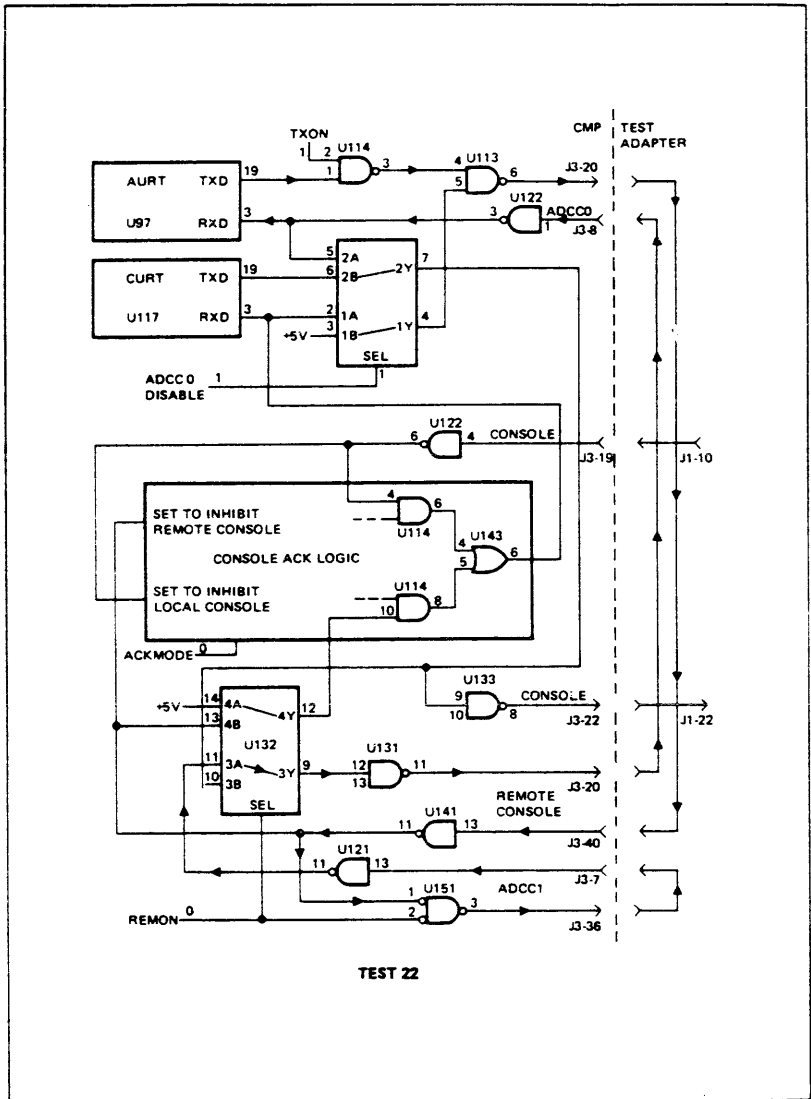

Figure 3-11. Data Comm Test Step 22
- 22 ACK logic is cleared in preparation for tests 23 and 24. (See figure 3-11.)